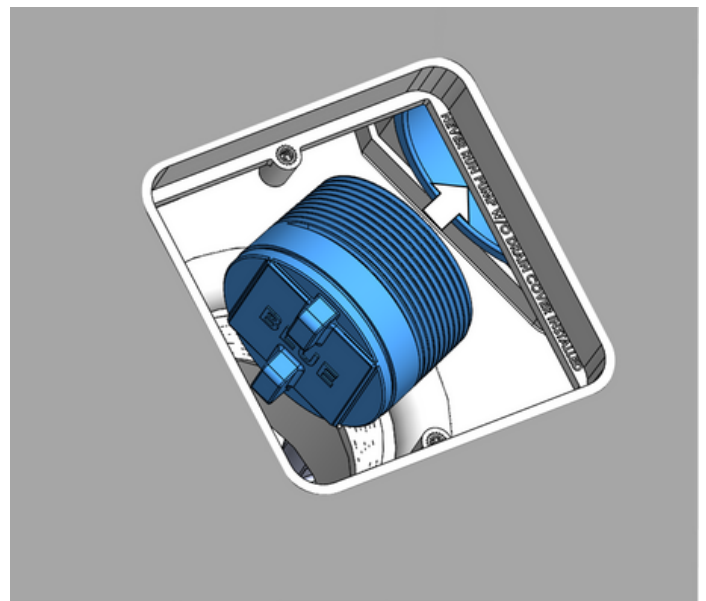

Figure 14
Hydrostatic Valve should be replaced every five (5) to seven (7) years, or if it appears damaged. It can be accessed under the center logo cap (see Figure 14).